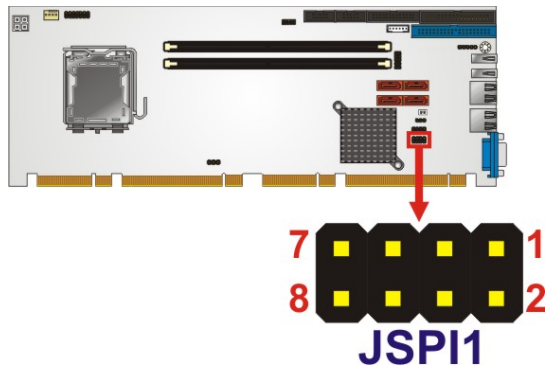

Figure 3-16: SPI Flash Connector
- CN Location:** See **Figure 3-16**